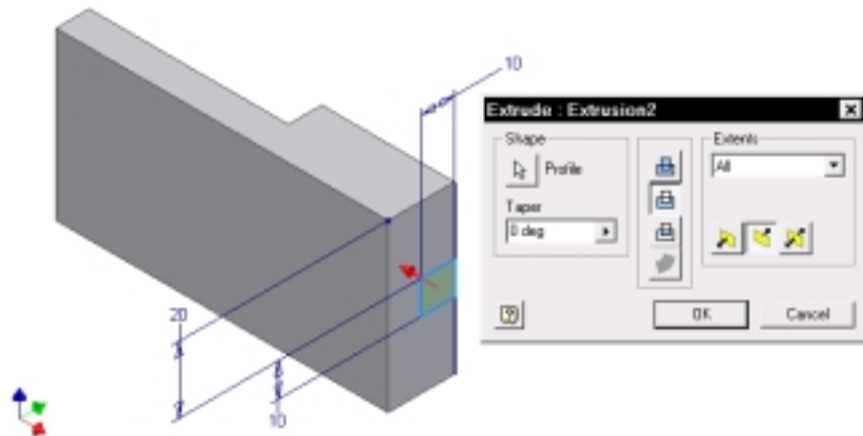

Figure 3-5
5. Extrude the second sketch to cut through the solid. (See Figure 3-5.)